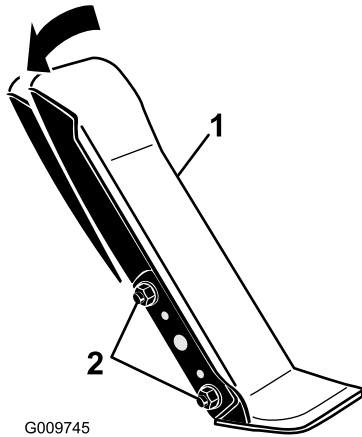

Figure 66
1. Loosen the 2 nuts and bolts securing the left side of the traction pedal to the bracket (Figure 66).
2. Pivot the pedal to the desired operating angle and tighten the nuts (Figure 66).